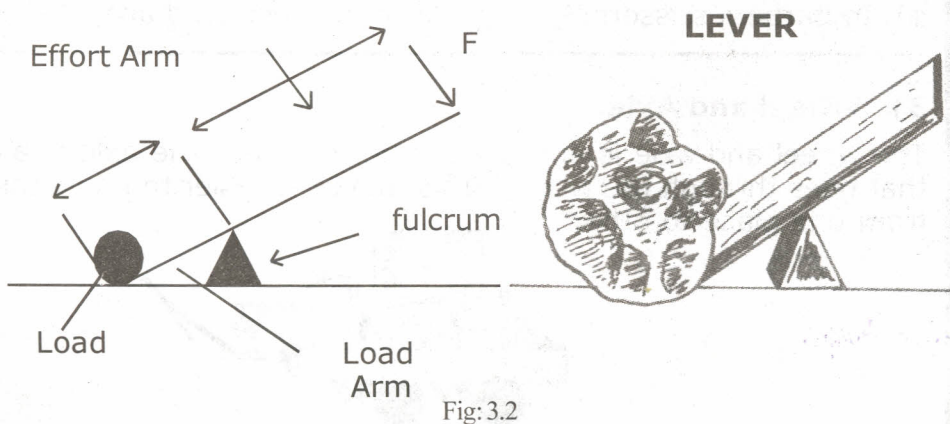

Fig: 3.2
- a) A lever is used to move rock or heavy object from one place to other. Closer the object from the fulcrum, less effort is required. (fig. 3.2)